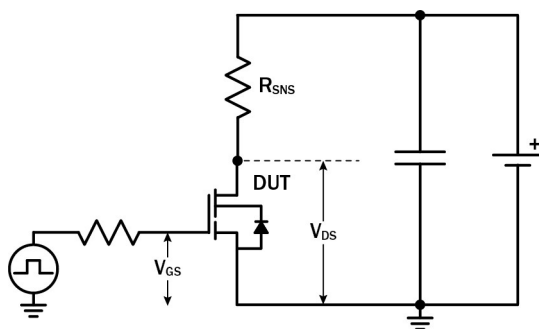

Figure 18. Dynamic $R_{DS(on)eff}$ Test Circuit
- g. Dynamic R_{DS(on)} value; see Figures 18 and 19 for conditions